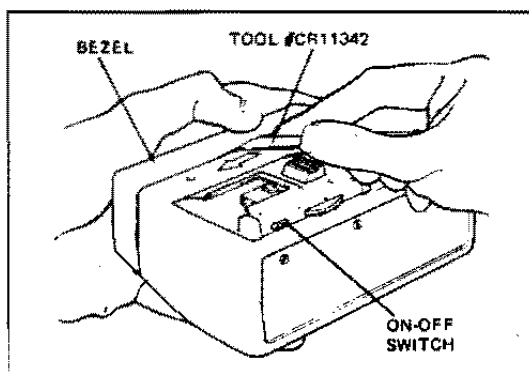

FIG. 4-20 OPENING THE FLASH ASSEMBLY
- Place the ON-OFF switch to the OFF position. Remove the bezel using tool CR11342. Insert the tool approximately 1/8" under the bezel on the underside of the flash (Figure 4-20). DO NOT OVER INSERT THE TOOL. Slide the tool (using a lifting motion) along the bezel until the bezel lifts off the housing.